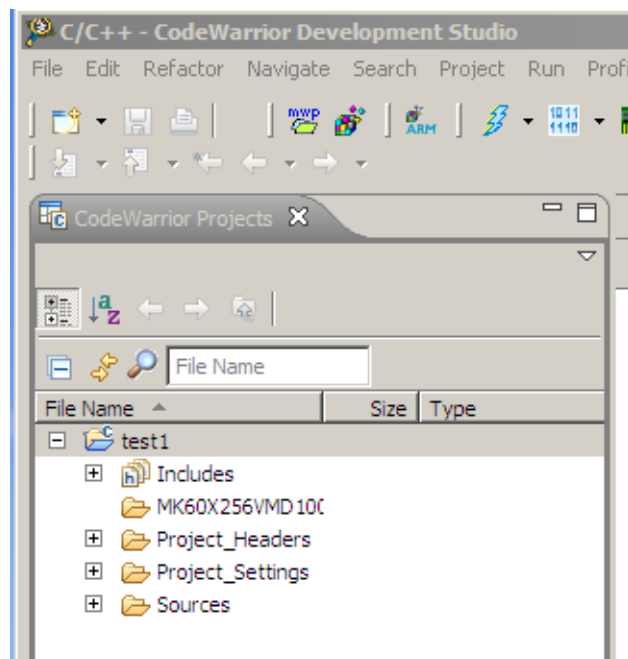

Figure 2-2. Existing project structure
3. The **CodeWarrior Projects** window should display a project structure as shown in Figure 2-2.